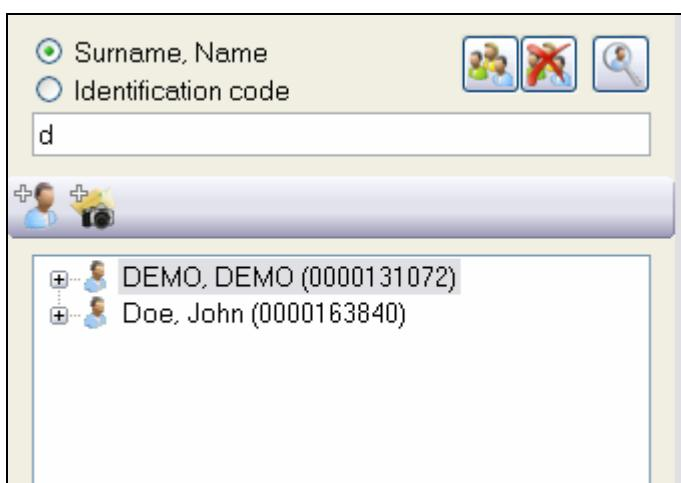

Fig. 38 – Patient search
To open the patients list, click the button. To find a particular patient, type the first letter/s of the last name in the command line. (Fig. 38). Only the patients whose last names begin with the letter/s entered will be displayed.
Click the button to run an advanced search. Figure 38 shows all search criteria selected; it is also possible to use only one criterion
- EXAM DATE: enter two dates delimiting the period of interest. In the Figure 38 example, all examinations conducted in the period 11 Nov 2006 to 01 September 2009 will be displayed.